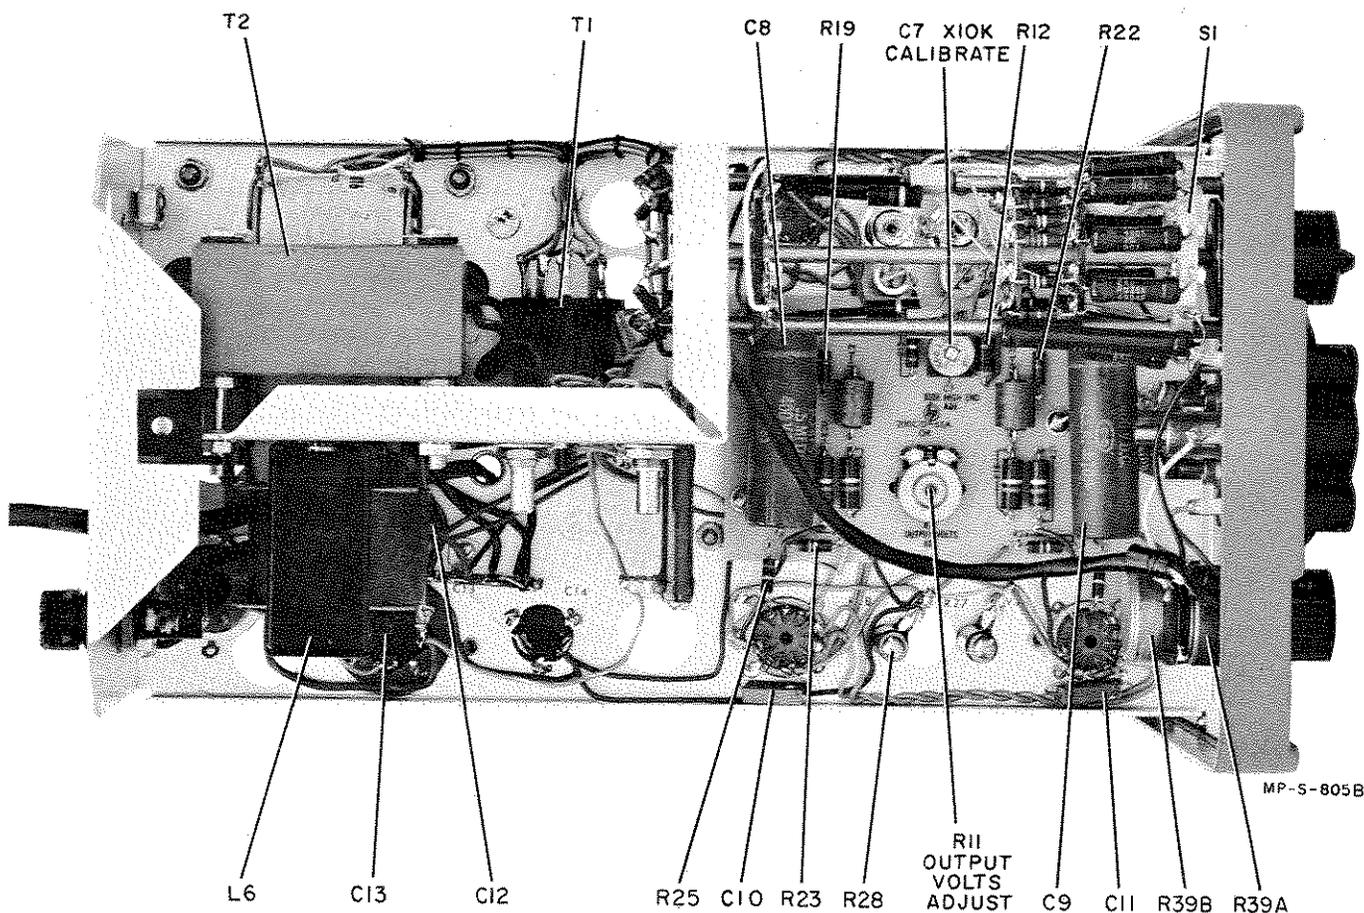

Figure 5-7. Bottom View Model 200CD
c. Turn Model 200CD AMPLITUDE fully clockwise, and adjust R11 for 11.5 volts on the ac voltmeter (see figure 5-7).